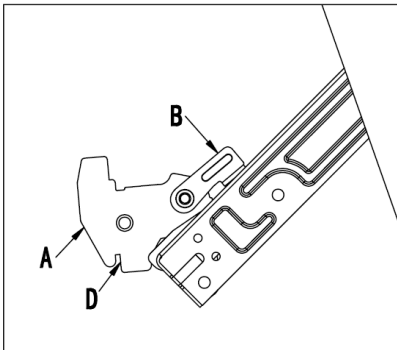

Fig. 1
- Open the door completely and lift the 2 levers “B” (Fig.1);